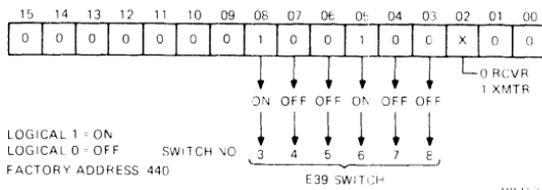

Figure 3 Interrupt Vector Selection
Figure 3 shows the vector select format and presents the wire-wrap pin-to-bit relationship for vector selection. Bits to be decoded as "zero" bits in the interrupt vector are wire-wrapped to ground wire-wrap pins (WP). Bits to be decoded as "one" bits are left unwrapped as these bits are pulled up to the one state.
The interrupt vector is also floating and is set to 440 at the factory to facilitate factory testing. If it is necessary to change the vector, simply change the six vector select switches contained in switch bank E39 (Figure 1) as required. These switches control vector bits 8–3; therefore, vectors can be generated in the range of 000 to 774. However, the software requires that the vector fall within the floating range of 300 to 777. The switch settings for vector selection are shown in Figure 3